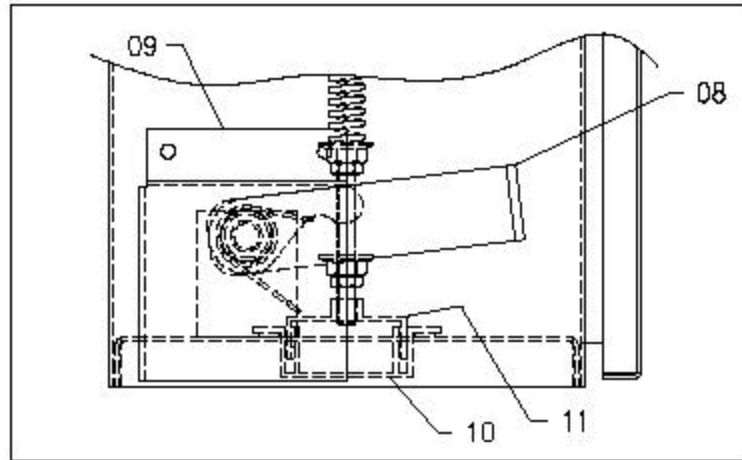

Figure 4: Indicator Assembly
9.1.1 Direct Replacement of the Complete Pole Assembly (Figures 4 & 5)